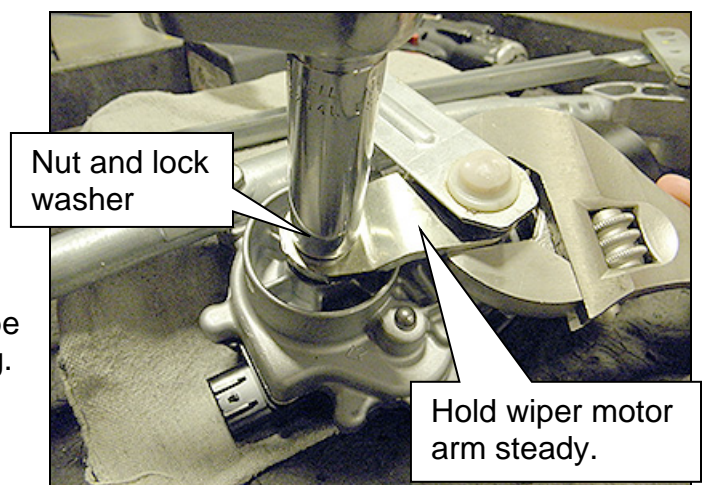

Figure 3
3. Remove the nut and lock washer that holds the wiper motor arm to the wiper drive assembly (Figure 3).
NOTE: An expandable wrench (shown in Figure 3) can be used to prevent the arm from moving.